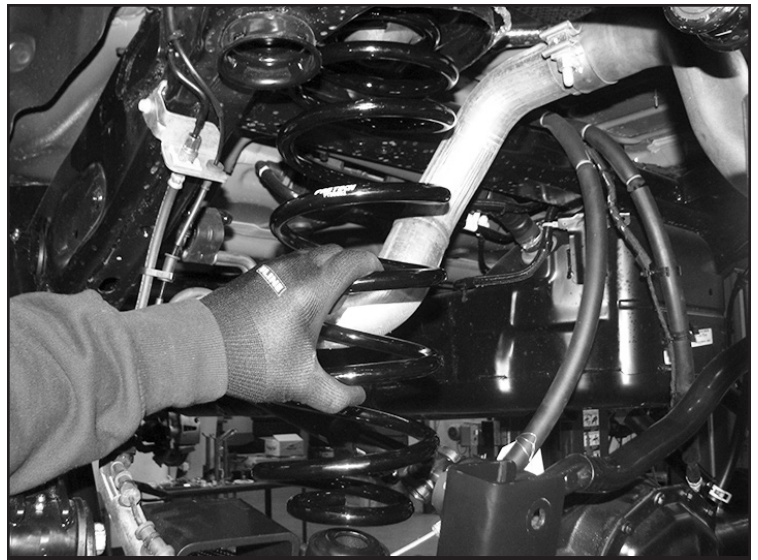

FIGURE 2 - STEP 10
10. Install the new Fabtech rear coil springs FT50602 or FT50606 (Driver Rear) & FT50603 or FT50607 (Pass Rear) using the factory rubbers isolators. **SEE FIGURE 2**